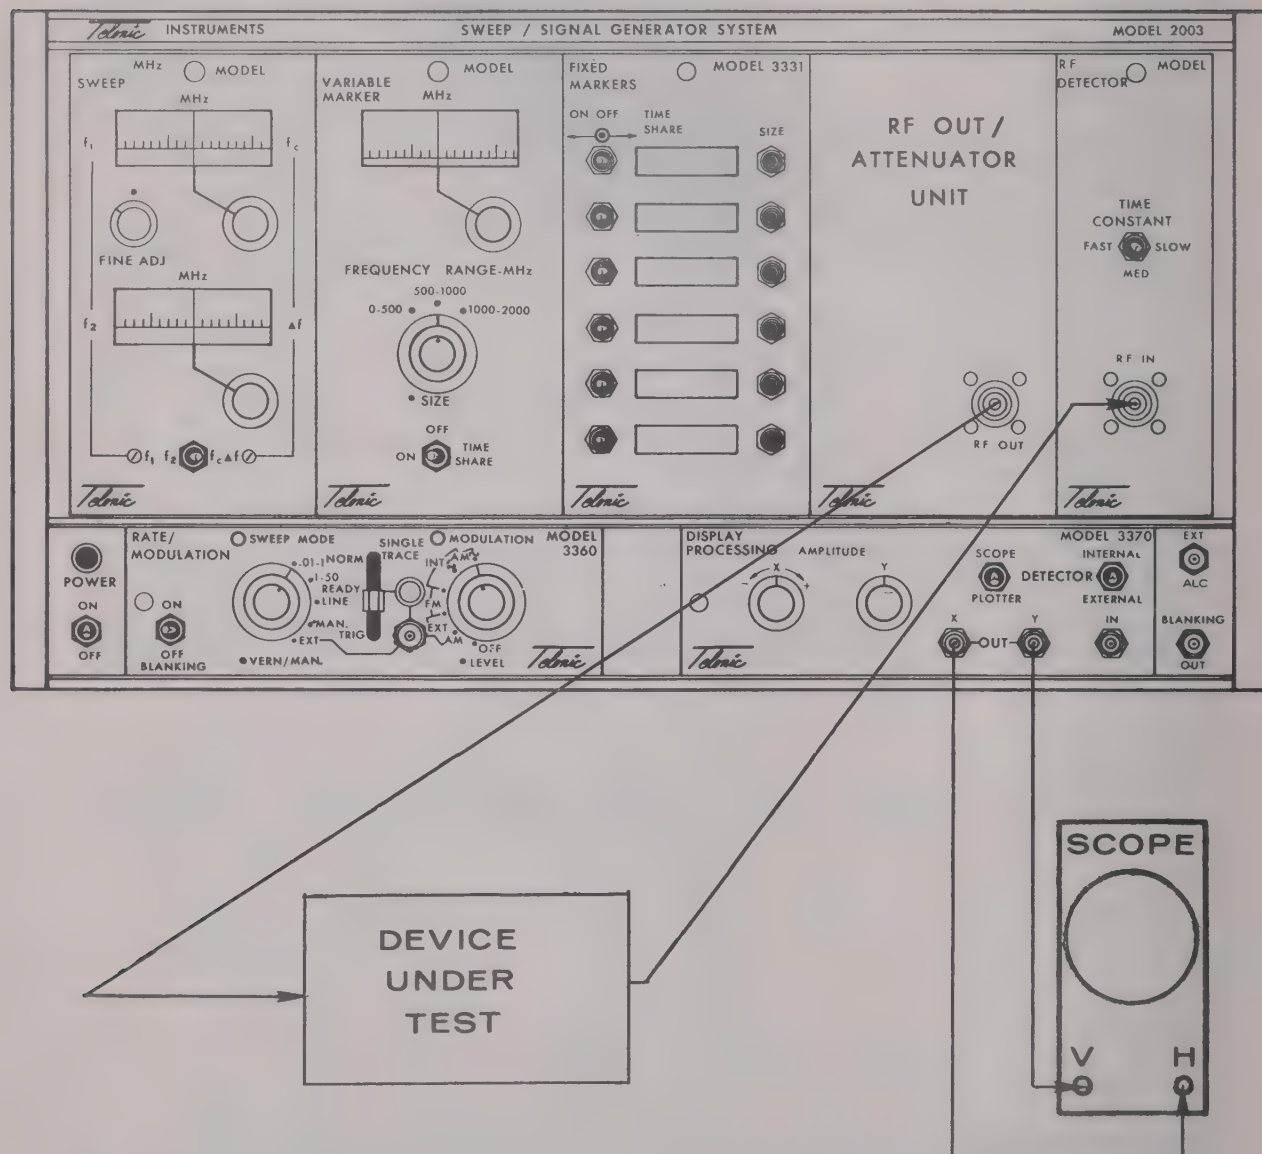

Figure 2-4. Typical Test Connections
b. Connect the 2003 to the unit under test as shown in figure 2-4.